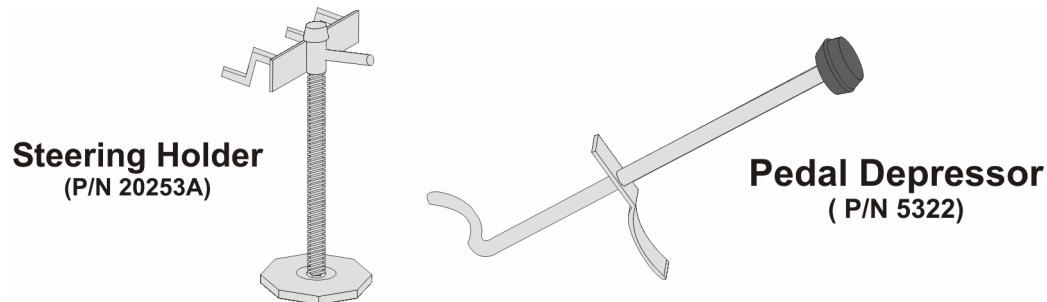

Figure 1-2. Pedal Depressor and Steering Holder
1.2.2.1 Open the shipping containers and remove the brake depressor and steering wheel holder. The pedal depressor's interlock device is packaged separately from the restraint arm. Ensure to account for all packaged item. Refer to Figure 1-2 as necessary.